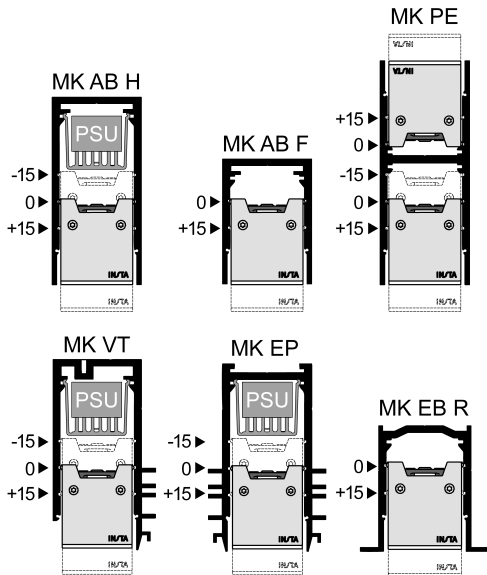

Figure 3: Latch positions depending on profile type
- Lay all connector cables in the profile (5) and fix them with cable holders (6).
- Connect the light insert (1) and push it into the profile (5) until the desired latch position is reached.
- Depending on the type of profile, various positions and latch positions are possible for the light inserts (Figure 3).